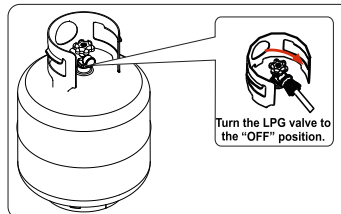

Fig 17
2. Turn off LPG bottle. (See fig 17)